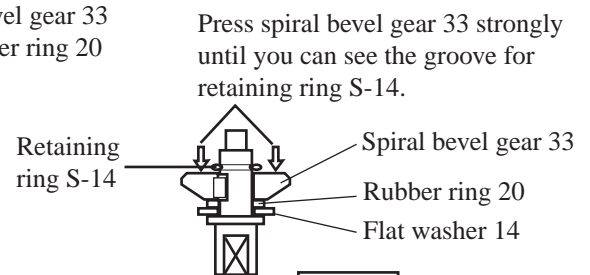

Fig. 10
- 3) Press spiral bevel gear 33 strongly until you can see the assembling groove for retaining ring S-14. So, retaining ring S-14 can be assembled to the groove on spindle. See Fig. 10.